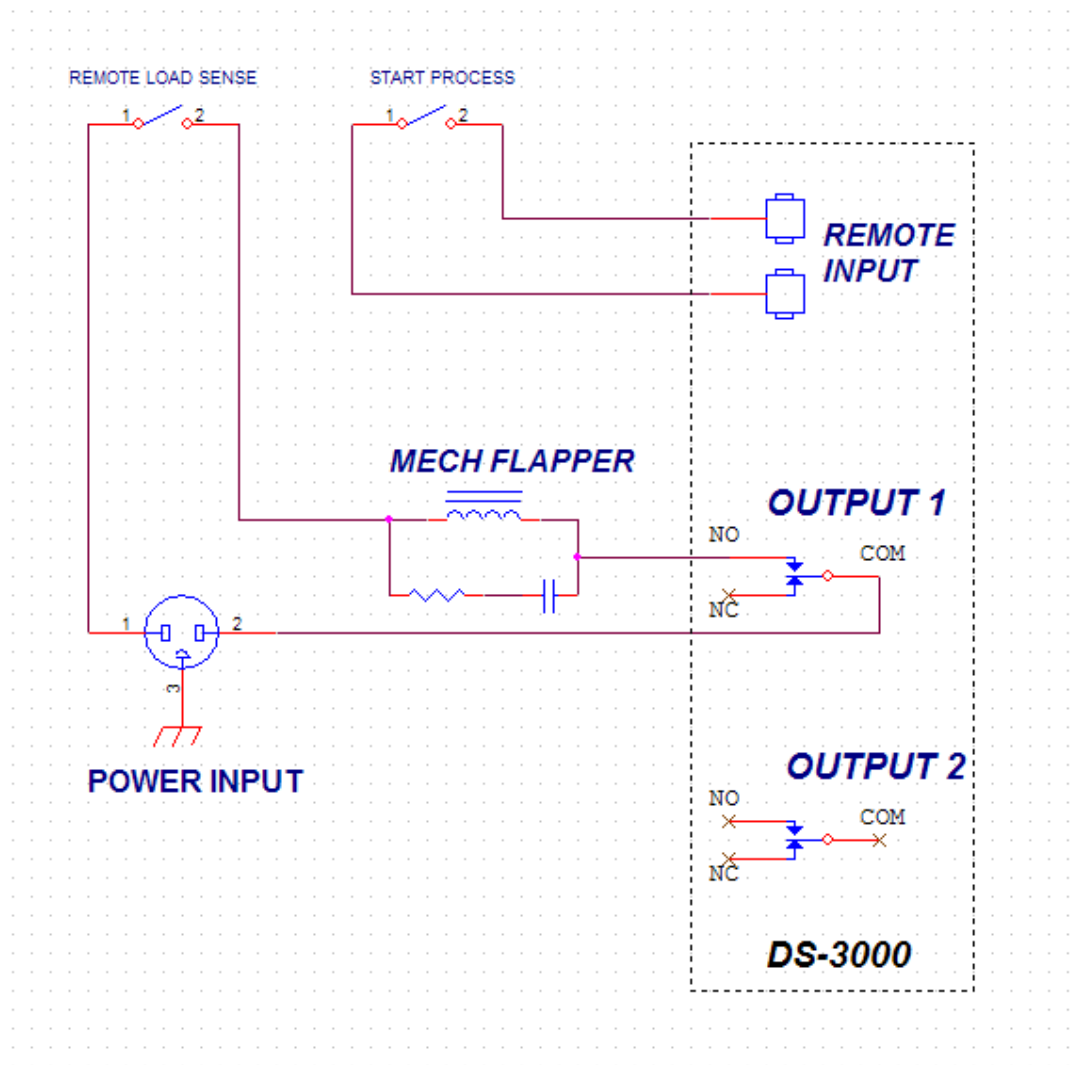

Figure 11: Schematic for Program Example 3
1. Connect the outputs as in Figure 11: **Schematic for Program Example 3**